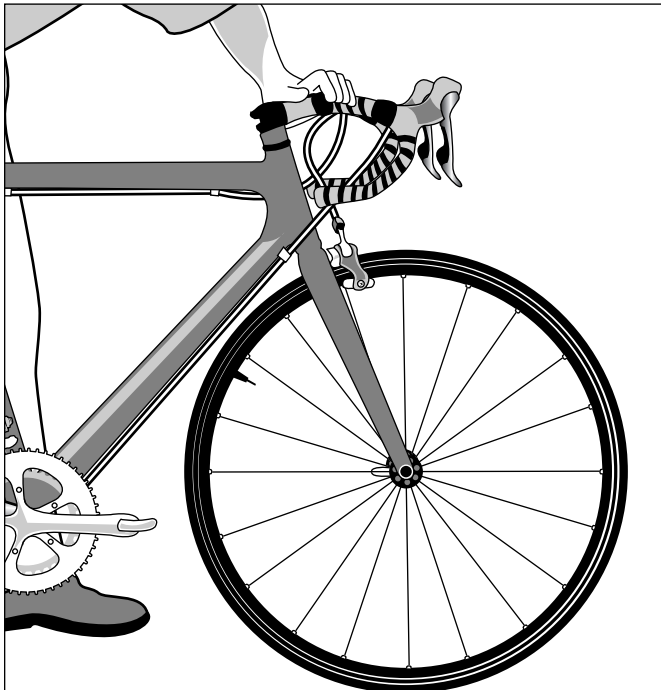

Figure 12-4:
- 2. Facing forward, straddle your bike with both legs and look down at the frame (as shown in Figure 12-4).**